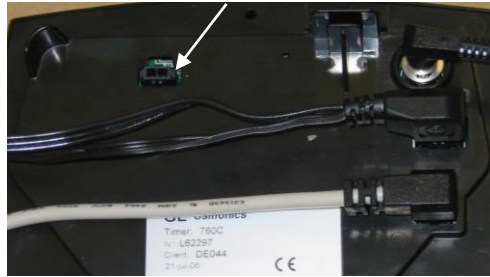

Fig. 2: Connection on the rear side of the control unit
- Fig. 2: Insert the two-pole connection plug with the latch pointing upwards in the connection socket on the rear side of the control unit and route the connection cable cleanly into the valve head so that this cannot be trapped by the rotating camshaft and consequently damaged.